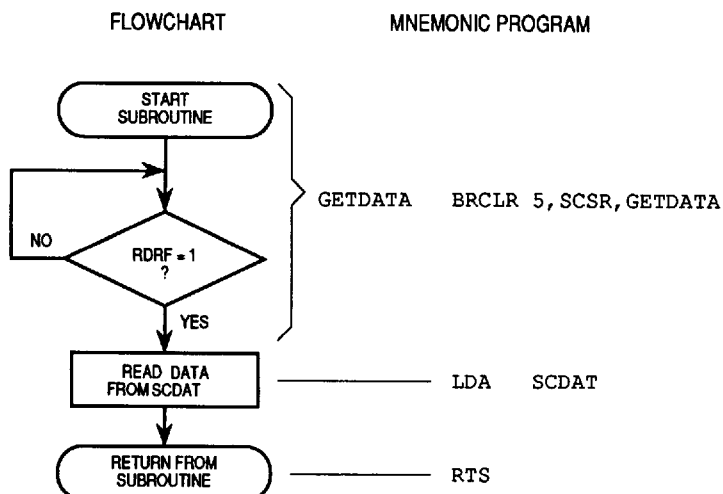

Figure 3-26. SCI Normal Receive Operation Flowchart
3.6.6.3 NORMAL RECEIVE OPERATION. Refer to Figure 3-26, a flowchart of the normal receive operation.